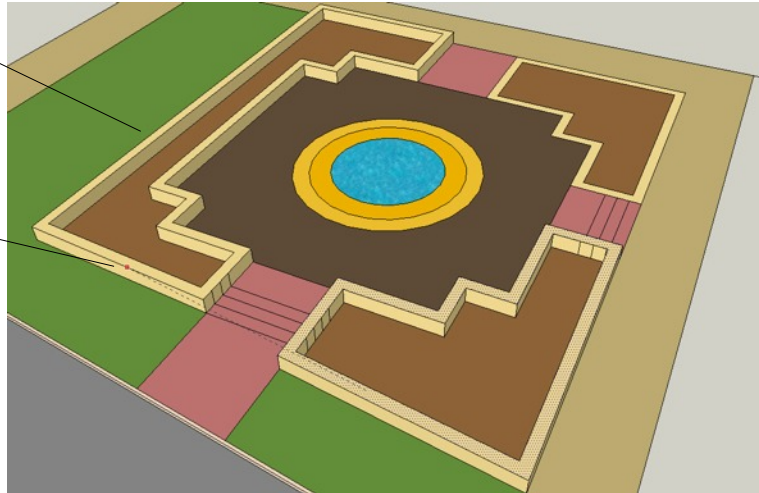

Figure 20. Using the Push/Pull tool to raise the height of the walls
- Using the **Zoom** tool enlarge the central plaza area as shown in Figure 20.
- Using the **Push/Pull** tool, raise the boundary wall to 600mm as shown in Figure 20.
TIP When the second wall is being raised to 600mm move your pointer over the previous wall and the second wall will be raised to the same height as shown in Figure 20.